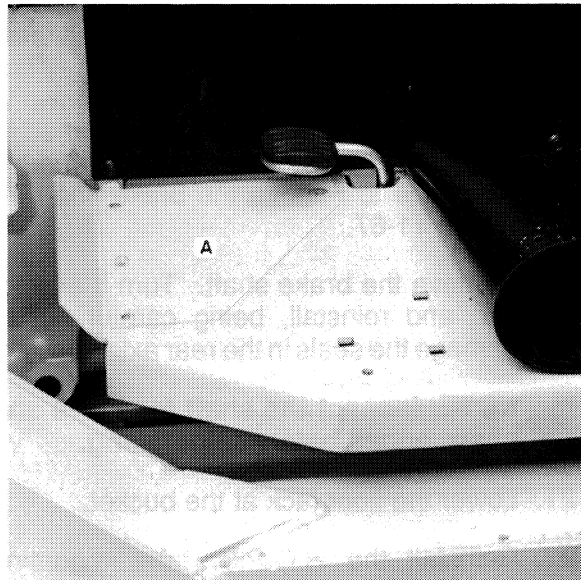

FIGURE 11-70
28. At the left step plate, remove plastic push pins and fold the mat back to remove filler plate, A, Figure 11-70.